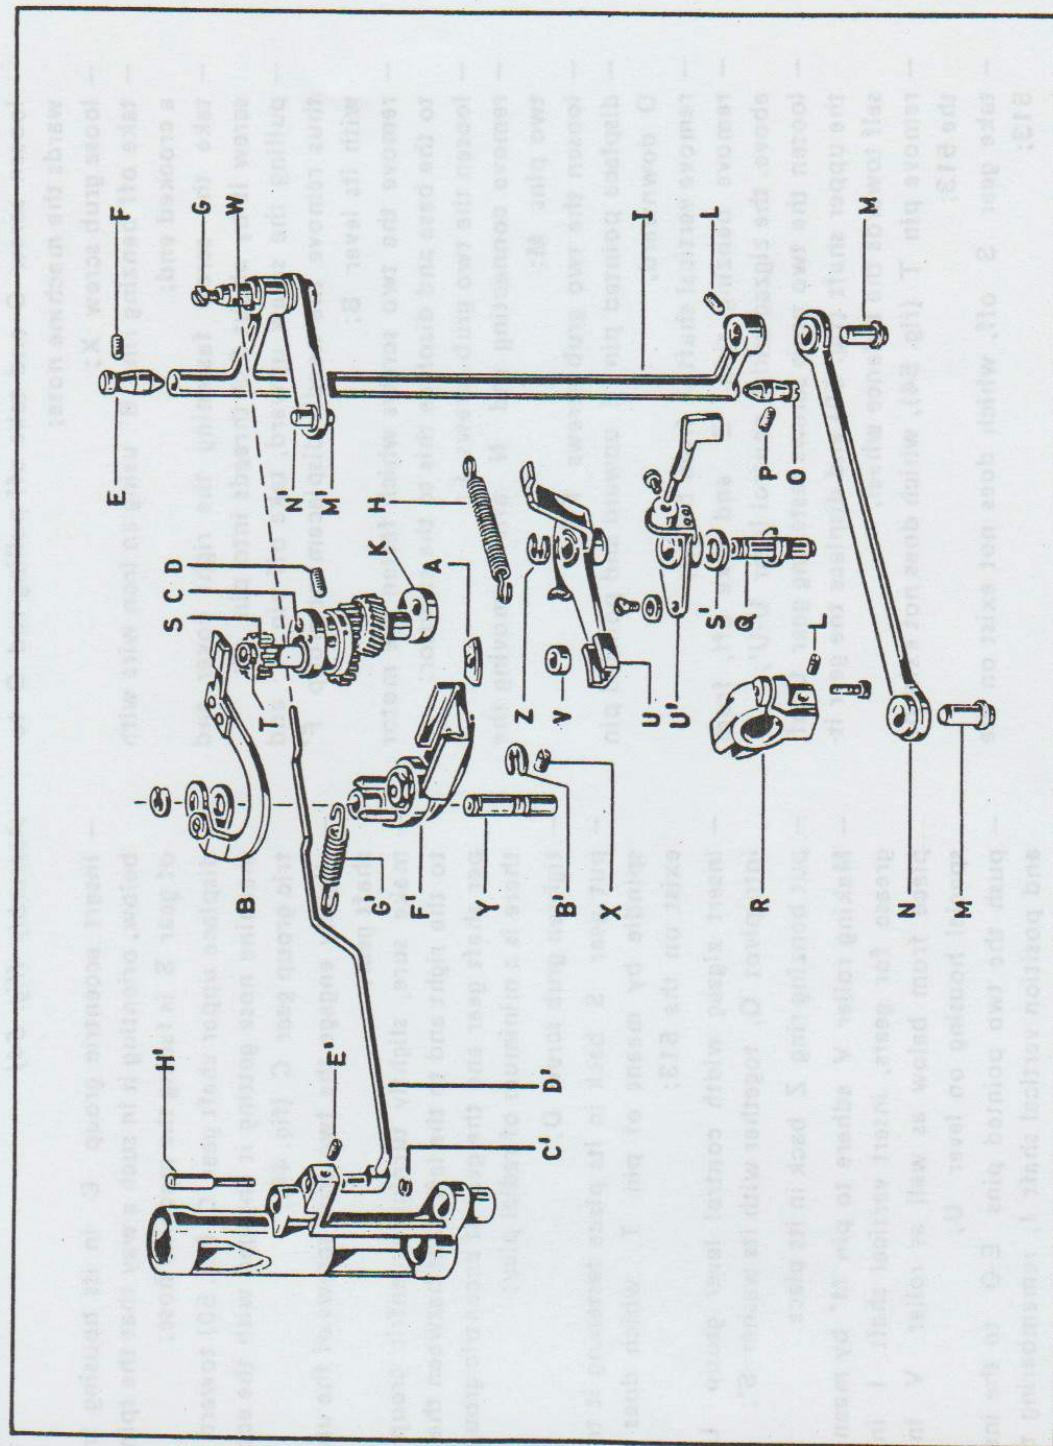

Fig. 54
- Disassembly (fig. 54)**
- Assembly (fig. 54)
- remove pin T (fig. 54), which does not exist on the 513;
- tighten grub screw X (fig. 54);